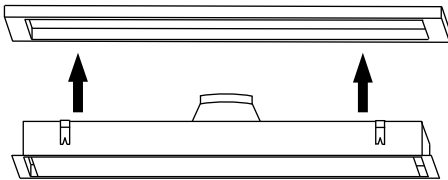

Fig 6
3. Put the Derwent up into the ceiling (Fig 6).